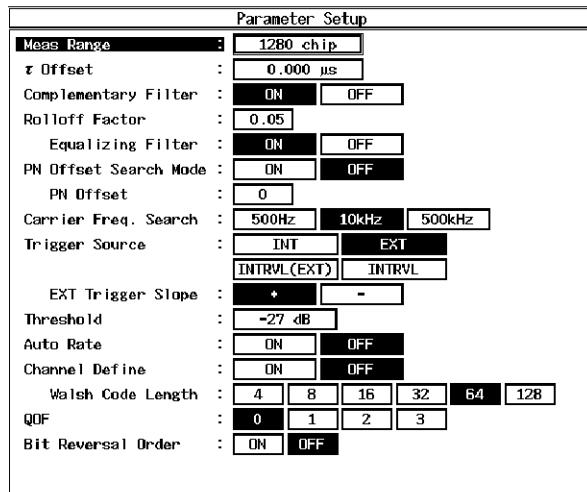

Figure 6-3 Setting of Measurement Parameters for Code Domain Power (FORWARD Link)
6. On the R3267 Series, set the measurement parameters as shown in Figure 6-3.